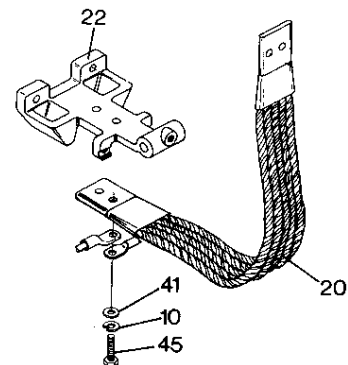

Figure 6
1. With all power removed, disconnect the arc chute wires by removing the hex head cap screws (45), lockwashers (10), washers (41), arc chute wires and shunt (20).
3. Remove the arc chute by removing hex head nut (16), lockwasher (6), washer (18), hex head cap screw (15) and the arc chute.
6. Reconnect arc chute wires (Fig. 6) and shunt, using the washers, lockwashers and hex head cap screws.
1. With all power removed, disconnect the bottom end of the shunt (20) by removing hex head cap screws, lockwashers, washers, arc chute wires and shunt.
2. Disconnect the top end of the shunt (20) by removing hex head nuts, lockwashers, washers and the shunt.
3. Check that auxiliary arm pin (26) is centered and set screws (17) are tight.
5. Connect the bottom end of the shunt by replacing the shunt, arc chute wires, washers, lockwashers and hex head cap screws (Fig. 6).